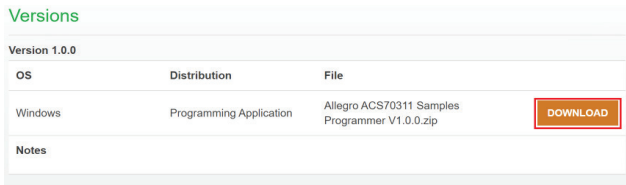

Figure 6: Download Button Opens Programming Application
- Click the download button next to the first result to open the programming application ZIP file, as highlighted in red in Figure 6.